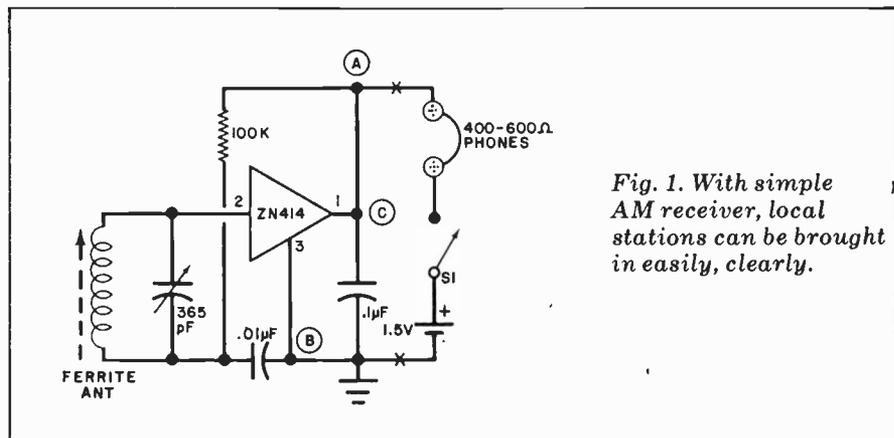
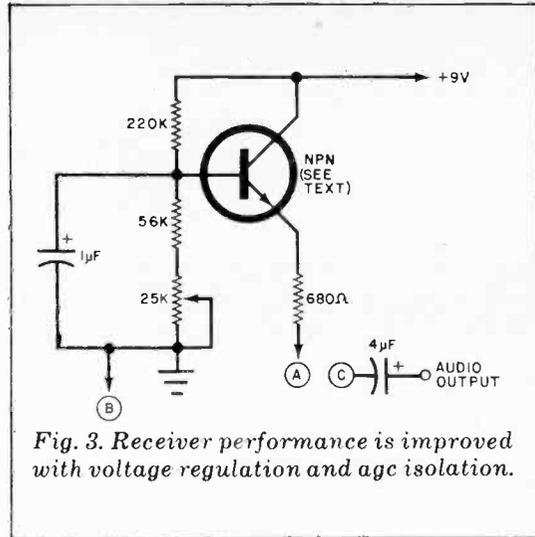

Fig. 1. With simple AM receiver, local stations can be brought in easily, clearly.
Fig. 3. Receiver performance is improved with voltage regulation and age isolation.
**Simplest AM Receiver.** Perhaps the simplest application for the ZN414 is the AM receiver shown schematically in Fig. 1. With a circuit as simple as this, it is almost impossible for anything to go wrong. In fact, a prototype receiver worked beautifully the first crack out of the barrel. Local stations came in with superb clarity and adequate volume through the headphone.
a few points that must be kept in mind. Any device with a power gain of 110 dB requires careful layout of the components to prevent feedback. Hence, keep the tuning assembly (including *L1* through *L4*) isolated from the other components in the circuit. In the circuits in Figs. 1 and 2, the agc action in the IC is highly dependent on the resistance of the headphones; so, use phones with impedances of 400 to 600 ohms.
can improve the performance of the receivers with two simple modifications. The first is the use of a voltage-regulator circuit that permits the receivers to operate safely from a 9-volt transistor battery. The second isolates the IC's agc circuit from dependency on the impedance of the phones or an amplifier into which the receiver's signal is fed. Both modifications are shown in Fig. 3. The lettered points connect to the same points in Figs. 1 and 2. The "X" marks in the receiver schematics indicate that, with the modifications in place, the phones, power switches, and battery must be disconnected.
Just about any silicon transistor (npr variety) can be used in the voltage-regulator circuit in Fig. 3. Use the potentiometer to adjust the voltage between pins 1 and 3 of the ZN414 to roughly 1.3 volts (the level recommended by Ferranti). If you wish, once the pot has been set to provide the proper voltage, you can remove it from the circuit and replace it with an appropriate-value resistor.